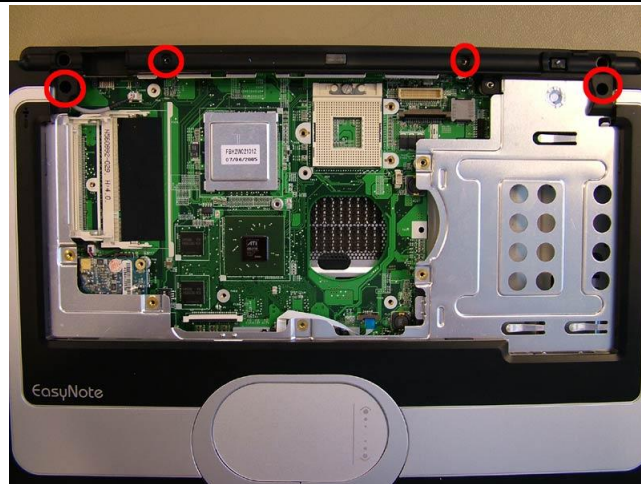

Fig. 14 Removing the 4 screws in the top.
3. Remove the 4 screws indicated on Fig. 14.